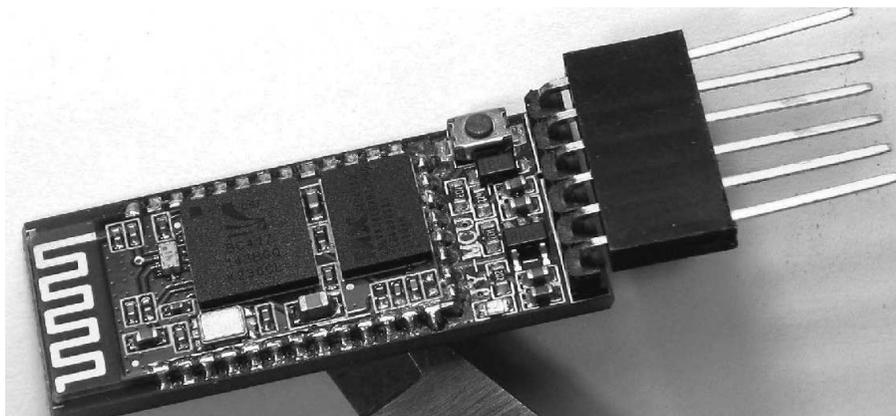

Figure 1 — This is a component-side view of the HC-05 Bluetooth transceiver.
As mentioned in Parts 1 and 2 of this series (Mar/Apr and May/June 2014 *QEX*) the Bluetooth (BT) link makes use of a Bluetooth transceiver module assembly, which is shown in Figures 1 and 2. The overall assembly is quite small, roughly the size of two small postage stamps stacked end-to-end (1.5 in × 0.5 in). The transceiver module consists of two circuit boards; a tiny postage stamp sized motherboard (sometimes referred to in eBay item listings as a back board) and a wireless transceiver daughter board. The wireless transceiver daughter board has 34 solder contacts around three sides of the perimeter, which attach/connect it to the motherboard. The motherboard also provides mounting space for a  $V_{CC}$  polarity reversal protection diode, a 3.3 V regulator, male header pins for external connections, a push button switch for implementing configuration setup mode, an LED status indicator and a few passive